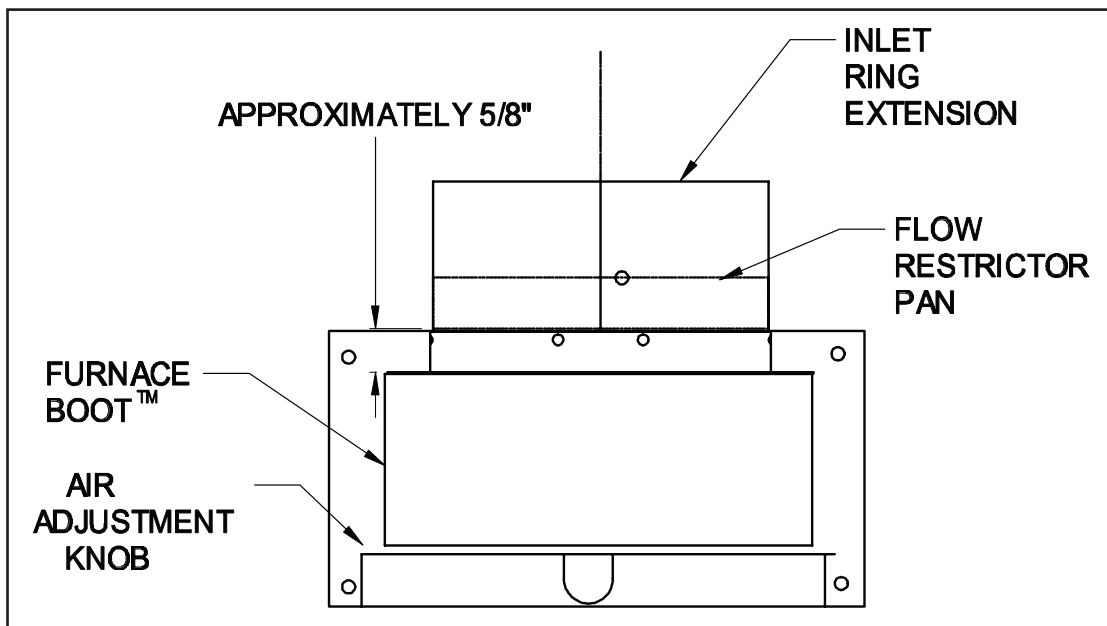

Figure 6
- b. Push the pan as far as the pan can go. The pan will be approximately $\frac{5}{8}$ " from the air adjustment blades. (See Figure 6)